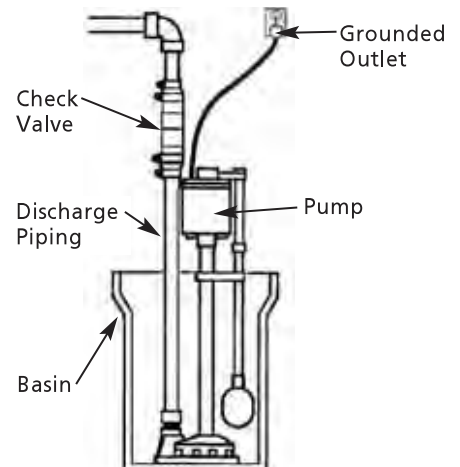

Figure 2
3. Pump should be installed in a sump pit that is 18 inches in diameter and 24 inches deep. See Figure 2 for pump installation outline drawing.